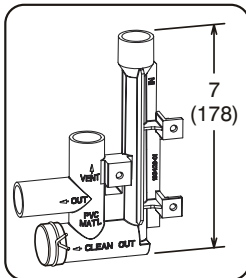

FIGURE 53
This unit is designed for either right- or left-side exit of condensate piping in upflow applications. In horizontal applications, the condensate trap must extend below the unit. An 8" service clearance is required for the condensate trap. Refer to figures FIGURE 45 and FIGURE 47 for condensate trap locations. FIGURE 53 shows trap assembly using 1/2" PVC or 3/4" PVC.
- 3 - Install the cap over the clean out opening at the base of the trap. Secure with clamp. See FIGURE 53.
- 4 - Install drain trap using appropriate PVC fittings, glue all joints. Glue the provided drain trap as shown in FIGURE 53. Route the condensate line to an open drain. Condensate line must maintain a 1/4" downward slope from the furnace to the drain.
Install the room thermostat according to the instructions provided with the thermostat. See FIGURE 53 for thermostat designations. If the furnace is being matched with a heat pump, refer to the thermostat installation instructions for set up.